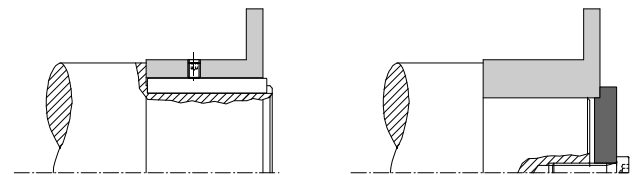

Fig. 5
- ❑ Mount the hubs (1 / 1.4) onto the shafts using a suitable device and secure them axially (Fig. 5). Axial securement takes place using a set screw (adjusting screw), which presses radially onto the key; or via a press cover and a screw, screwed into the shaft threaded centre hole.